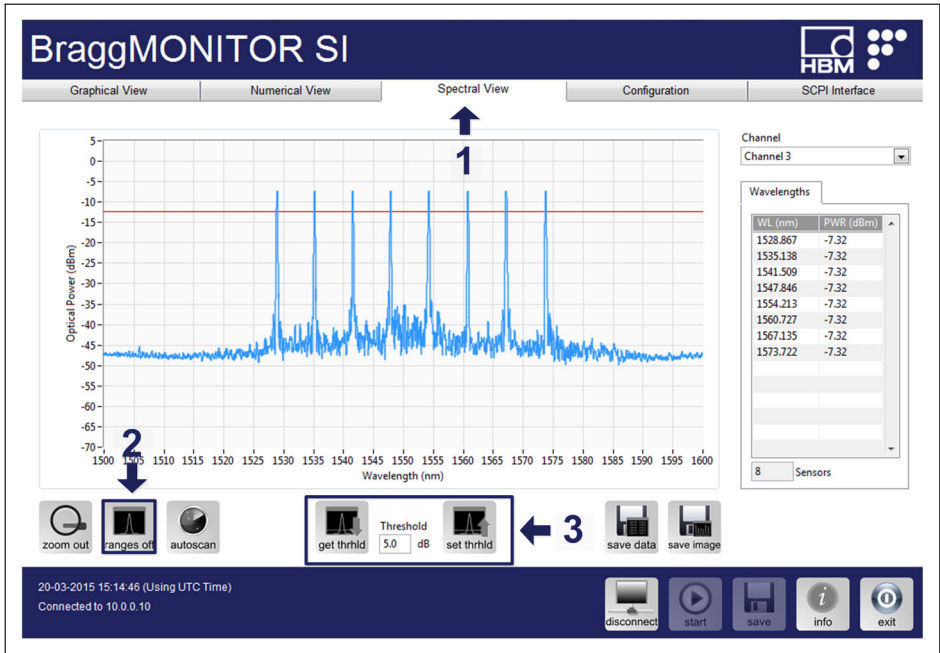
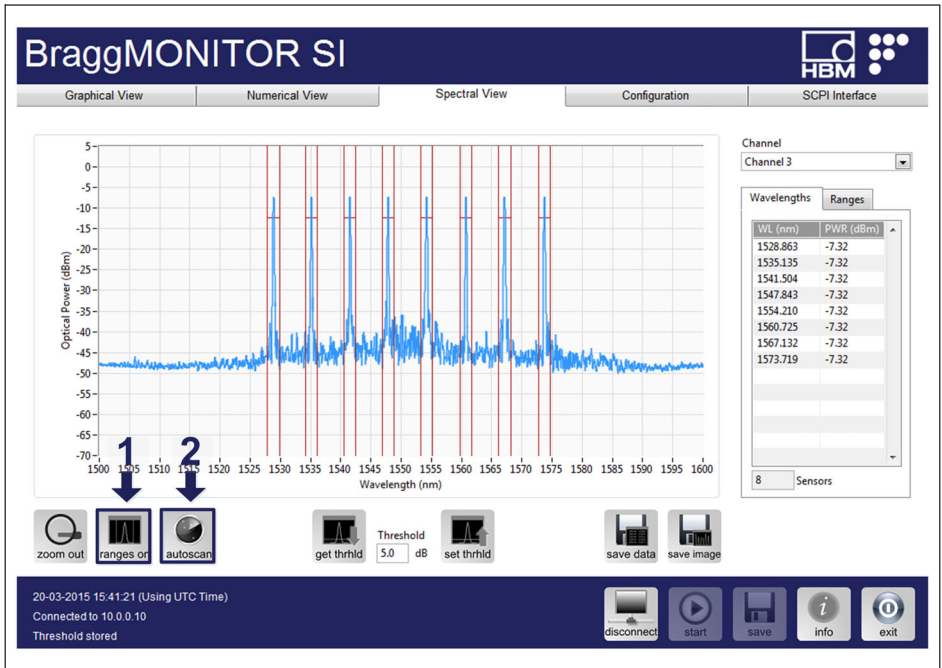

Fig. 5.2 Configuring measurement settings on BraggMONITOR SI
Fig. 5.3 Auto-scanning in BraggMONITOR SI
The reflected spectrum of the connected sensors can be checked under the Spectral View tab. Press the corresponding tab, on top of the graphical user interface, to select it (number 1 in Fig. 5.2).
The FS22SI has two operation methods in terms of peak detection. The method to use must be selected using the “Ranges” button (see number 2 in Fig. 5.2 and number 1 in Fig. 5.3).
The setting to adjust on the FS22SI Interrogator is the threshold (see number 3 in Fig. 5.2). The “get” button query the interrogator for the stored value and the “set” button send the new values to the interrogator and store them. The “set” button needs to be pressed so that the defined value becomes active. Threshold value can be an integer between 0 to 60 dB.
- Define the threshold (number **3** in *Fig. 5.2*) so that:
- Then, auto scan should be performed (number **2** in *Fig. 5.3*).
With the ranges on (number **2** in *Fig. 5.3*) the interrogator operates in the SPD Measurement Method. With SPD, the available spectrum is divided in “windows” where only one sensor peak can be identified. The threshold value is relative to the maximum peak within each range.
After pressing the “autoscan” button (number 2 in Fig. 5.3) the sensor list is automatically populated with the sensors found on the optical network considering the defined settings. The autoscan searches for peaks and defines those found as sensors. For each sensor the autoscan: